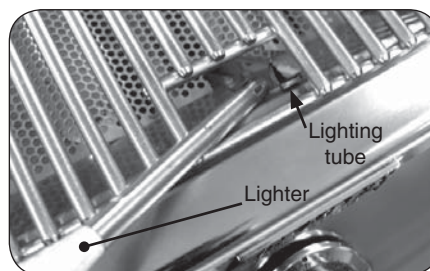

Fig. 15-2 - Manual lighting
**CAUTION:** Always wait five (5) minutes for gas to clear after any unsuccessful lighting attempt.
2. Insert either a burning long-barrel butane lighter or a burning long-stem match through the cooking grid opening to the top of the lighting tube. (Fig. 15-2).
4. If the burner does not light, **immediately depress the knob and turn the valve to OFF**. **WAIT FIVE (5) MINUTES** before repeating steps 2 through 4 of the MANUAL LIGHTING instructions.